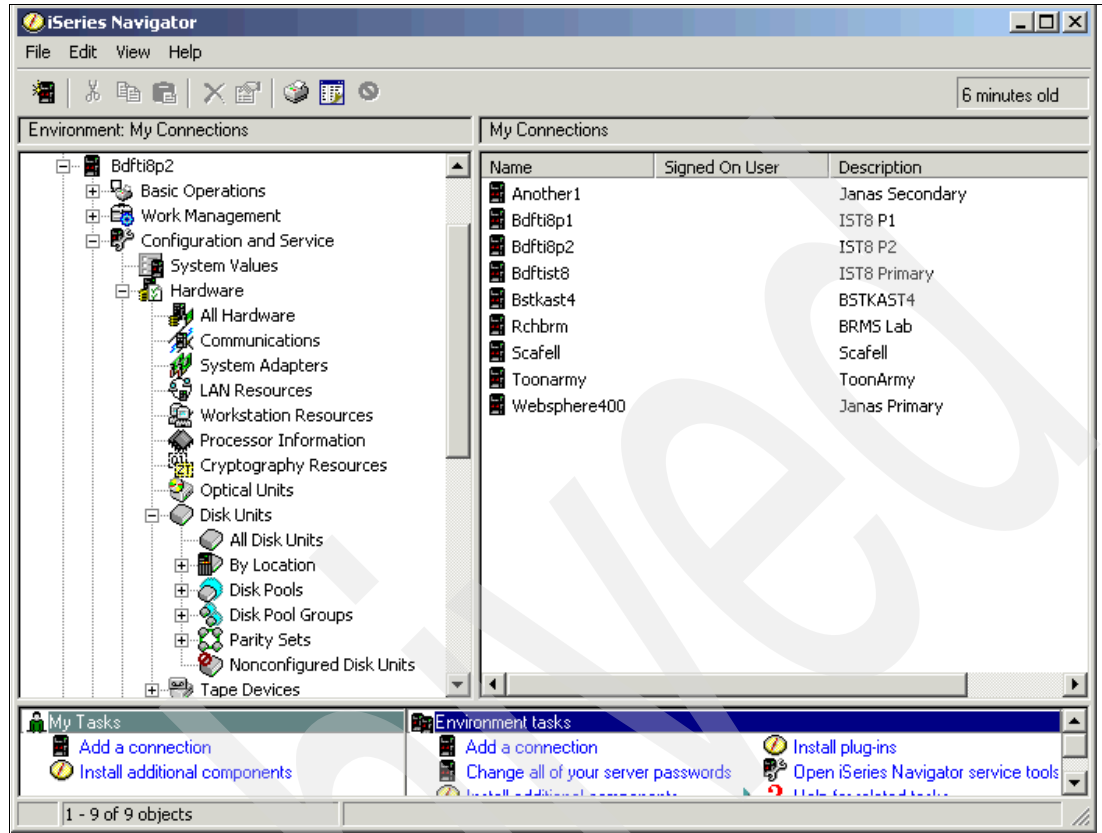

Figure 5-24 Series Navigator Disk Units
- Expand the iSeries to which you want to add the logical volume and sign on to that server. Then expand **Configuration and Service** → **Hardware** → **Disk Units** (see Figure 5-24).